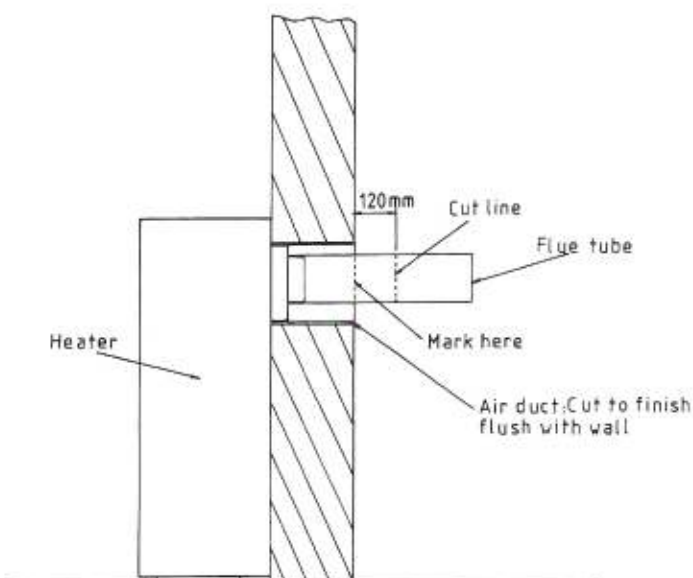

Fig.3
7.9 Whilst holding the duct square and level, mark it for correct length, i.e. to finish flush with the outside wall surface (see Figure 3).
7.21 Mark the position of the outside wall surface onto the flue tube (see Fig. 3).